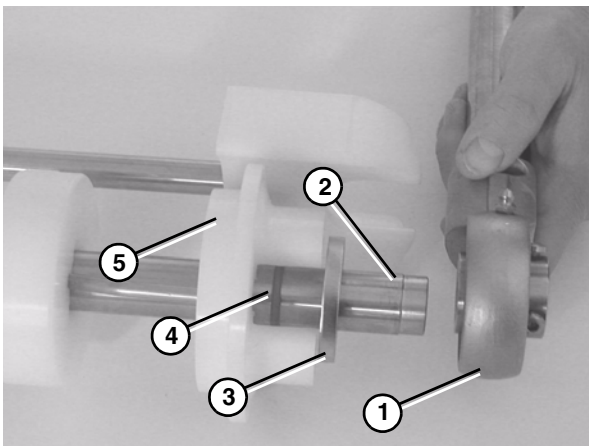

Figure 69
5. Slide off bearing shaft assembly (Figure 69, item 1), washer (Figure 69, item 3), O-ring (Figure 69, item 4), and flanged puck (Figure 69, item 5) off the idler shaft (Figure 69, item 2).